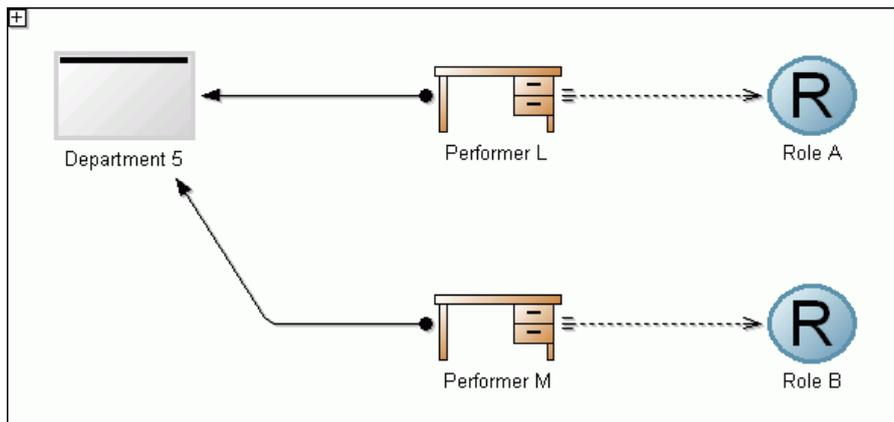

Figure 401: Example model in the ADL file (Variant 2)
**Variant 2:** A model "Example model 1" of the type "WE model" is stored in the ADL file, which is different from the model stored in the database, since it does not contain the connector from the object "Performer L" to the object "Role B" (see fig. 401).
When the option **"Delete not updated connectors"** is activated, the result of the **Variant 2** equals the contents of the model stored in the file (see fig. 401), since the connector from the object "Performer L" to the object "Role B" is not contained in the model to be imported.